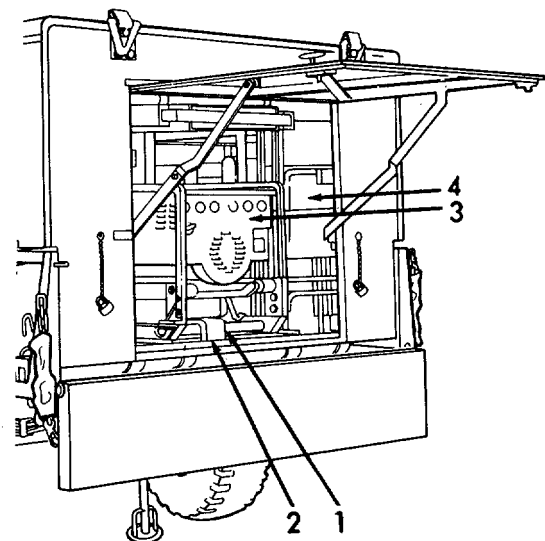

Figure 2-5. Generator Set, Removal.
b. Unloading the Generator Set. (Refer to Figure 2-5).
- (1) Remove two wing bolts (1) that secure the generator set holddown bracket (2).
- (2) Remove the holddown bracket (2).